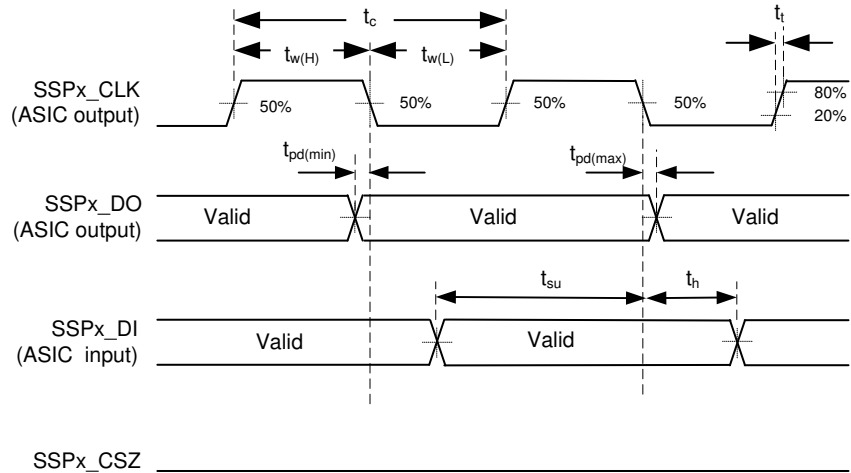
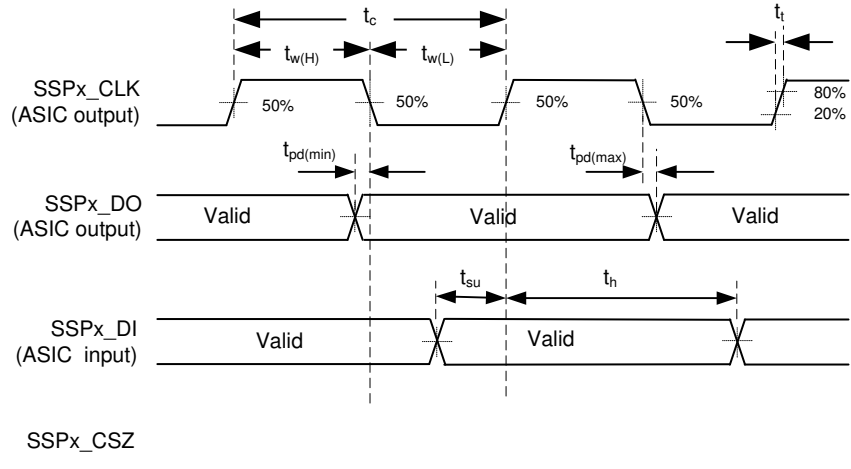

Figure 6-10. Synchronous Serial Port Interface – Master (Modes 0/3)
Figure 6-11. Synchronous Serial Port Interface – Slave (Modes 0/3)
- (1) The SSP is configured into four different modes of operation by the controller firmware. These modes are shown in Table 6-2, Figure 6-10, and Figure 6-11.
- (2) Modes 0 and 3
- (3) Modes 1 and 2